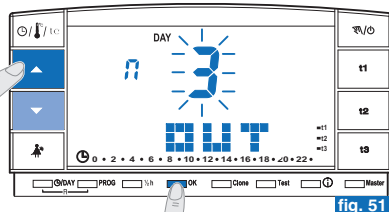

fig. 51
- The current month will blink on the display. Using the **▲▼** keys, set the month in which you want to activate the Holiday program (leave home). Confirm with **OK** (fig. 51).